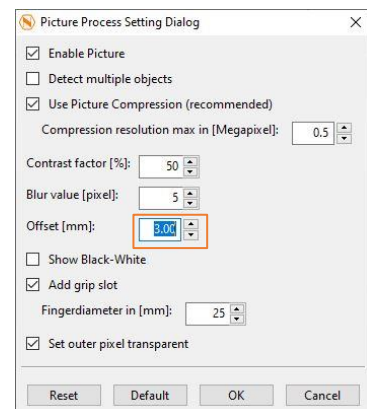

Figure 419
- a. Reduce the offset value from 5mm to 3mm (Figure 419).